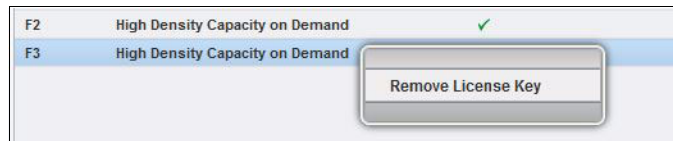

Figure 4-17 Remove License Key
- ▶ Intermediate high-density (HD) Capacity on Demand (CoD) increases storage from the entry capacity to the intermediate capacity. The Intermediate CoD feature (Feature Code 1643) adds 100 slots, increasing the usable capacity of the L25 and L55 (Lx5) frames to 200 slots.
- ▶ It is possible to remove a licensed function by using right-click a licensed function and selecting the remove license key as shown in Figure 4-17.